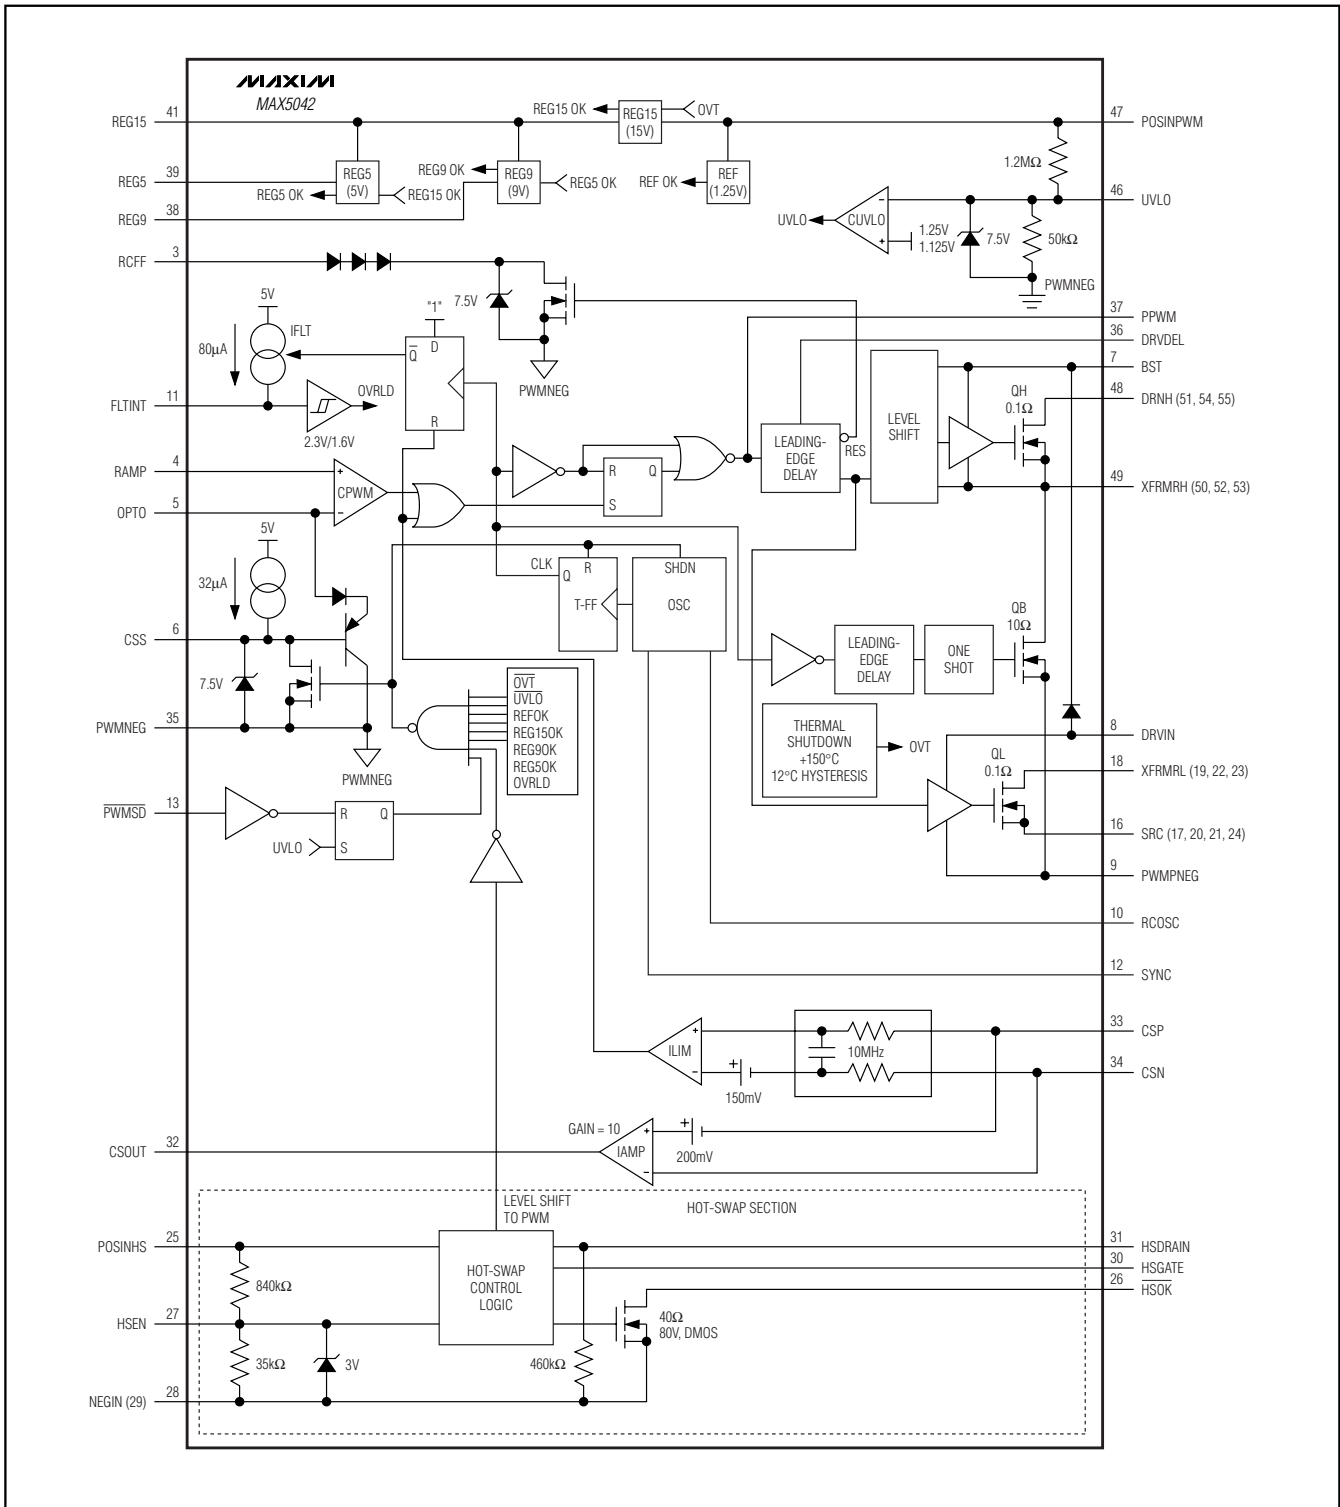

Figure 3. Block Diagram of the MAX5042 Power IC
Figures 3 and 4 show the block diagrams of the MAX5042 and MAX5043, respectively. The power-OK signals from the hot-swap section, regulators, thermal shutdown, and UVLO combine to generate the internal shutdown signal SHDN. When asserted, SHDN disables the comparators and oscillator. Deasserting SHDN releases the comparators and oscillators. The falling edge of SHDN is delayed allowing the internal signals to settle before the PWM pulses appear. During the time between the falling edge of SHDN and its delayed signal, the 10Ω internal MOSFET (QB) from XFRMRH to PWMPNEG turns on, charging the BST capacitor. After startup, this MOSFET also turns on for approximately 300ns at each half period to help charge the BST capacitor.
The ILIM comparator provides cycle-by-cycle current limiting with a typical threshold of 156mV. The fault integration circuit works by forcing an 80µA current out of FLTINT for one clock cycle every time the current-limit comparator (Figures 3 and 4, ILIM) trips. Use the following formula to calculate the approximate capacitance (C_{FLTINT}) needed for the desired shutdown time.